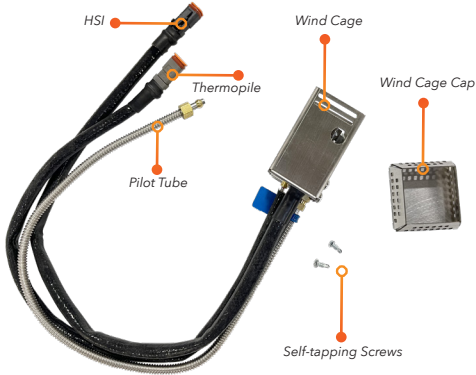

Figure 3a: Pilot Assembly
- 2.1 Locate the Pilot Assembly. The Pilot Assembly consists of a wind cage, wind cage cap, pilot burner, and self-tapping screws. On the pilot assembly, you will see a hot surface igniter, a pilot burner, and a thermopile. (See Figure 3a and 3b)